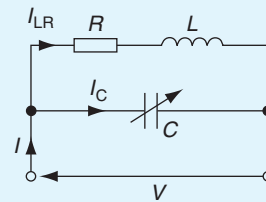

Figure 16.13
6. A parallel circuit as shown in Fig. 16.13 is tuned to resonance by varying capacitance C . Resistance, $R = 30 \Omega$, inductance, $L = 400 \mu\text{H}$, and the supply voltage, $V = 200 \text{ V}$, 5 MHz .